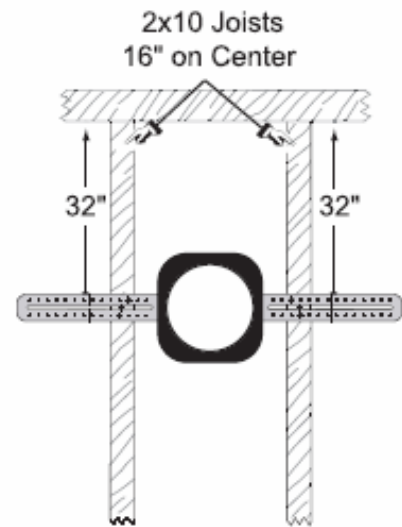

Figure 5
- E. After the speaker bracket is properly positioned install some additional screws or nails to lock down its location. Screws might be preferred if movement or removal could be required at a later date. **(See Figure 5)**